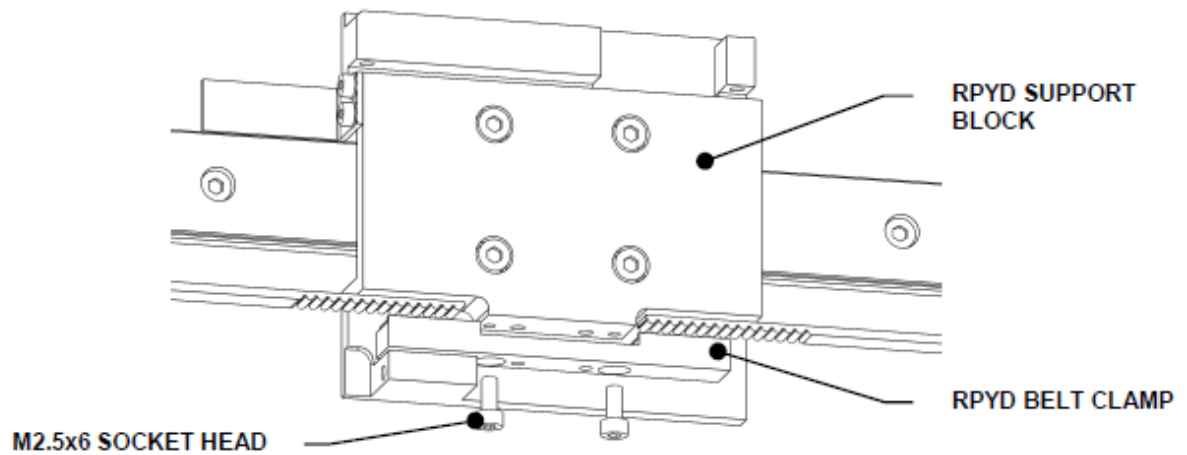

Figure Q-10: Clamping the Belt
2. Place the ends under the Reagent Pipette Y Drive Support Block and secure them using a Reagent Pipette X Drive Belt Clamp, two M2.5x6 Socket Cap Head Screws and Loctite 222 (Figure Q-10).